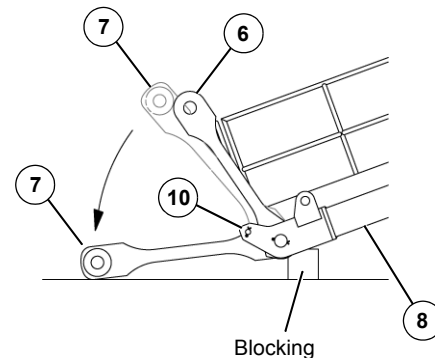

FIGURE 4-23
NOTE: Top and bottom shear frame links (6 and 7) are shipped in stored position on rear shear frame as shown in Figure 4-23.
- On both sides of rear frame (8, Figure 4-23), support top shear frame links (6) and bottom shear frame links (7) so they cannot fall, remove pin (10) and lower links (7) to ground.
- Store pins (10) in pin storage brackets.